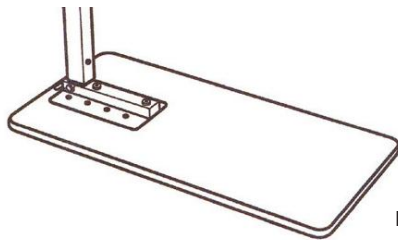

Fig. 2
1. Remove contents from packaging and lay table top (1) upside down on flat surface with Mounting Bracket (5) facing upward. See Fig. 2.